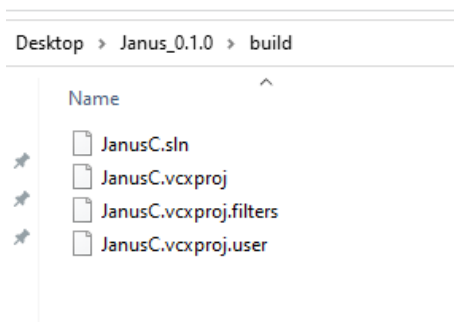

Fig. 2.2: Microsoft Visual Studio project files for the Janus 5202 software. The path is visible in the top bar.
- **build**: folder containing the Microsoft Visual Studio project (see **Fig. 2.2**).